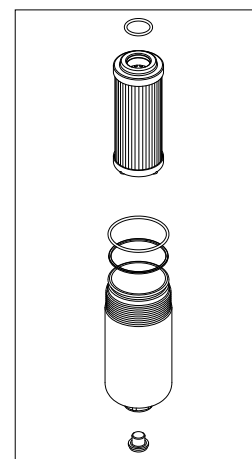

fig. 29
- (Fig. 29) Fit 1°: the anti-extrusion ring and 2°: the O-ring in the bowl groove, insert the O-ring in the filter element cap